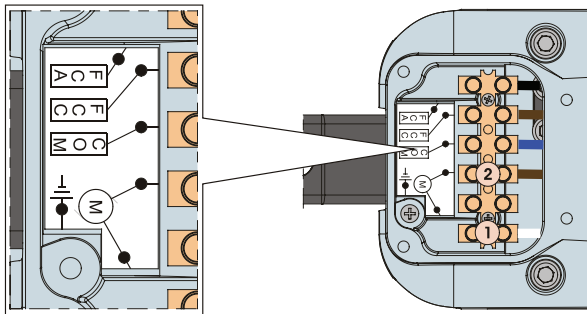

Figure 14 Table Fig. 14
3. Connect the motor (refer to Fig.14 and accompanying table)